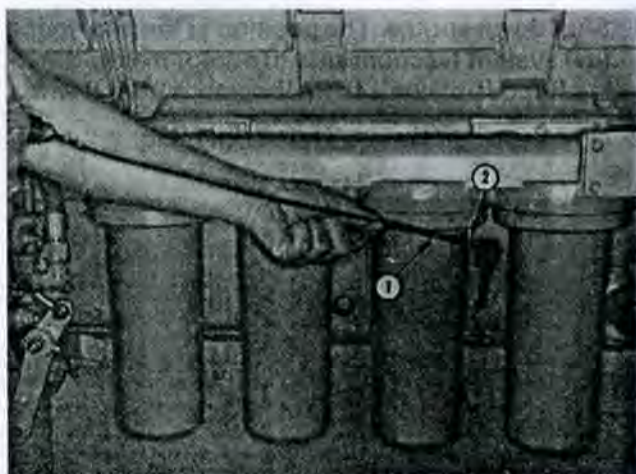

Fig. 2-1. (K21901). Checking engine oil level
1. Check the oil level with the dipstick oil gauge located on the engine. Fig. 2-1. For accurate readings, the oil level should not be checked for approximately 15 minutes after the engine is shut-down. Keep the dipstick with the oil pan with which it was originally shipped. Keep the oil level as near the "H" (high) mark as possible.